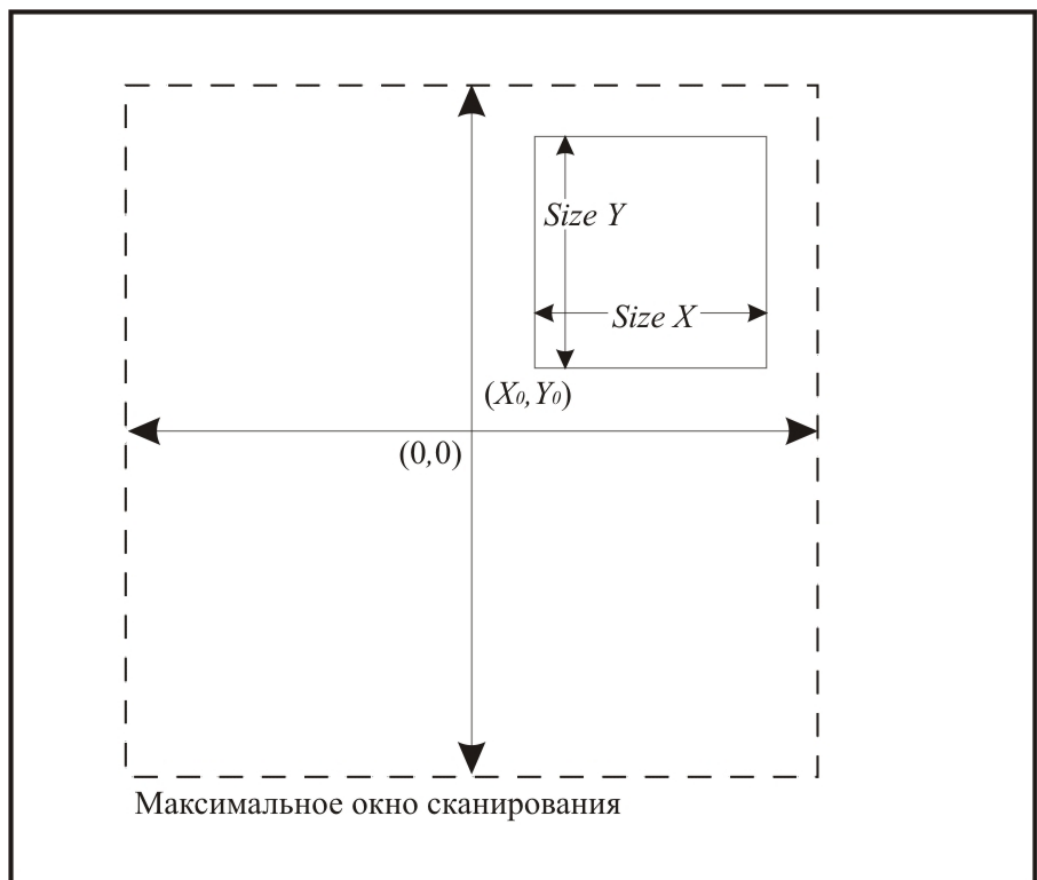

Figure 2.7. Scan window dimensions.
- X_o , Y_o , Size X, Size Y - coordinates of left bottom corner of a scan window and its size in X and Y directions (see fig. 2.7). All these values are sent to the server only at the beginning of scanning process and do not change during scanning. To enter new values, the user should stop current scan, enter new values and then start scanning again. Scan window dimensions have a higher priority than bottom left corner coordinates and if the scan window dimensions become rather large, the bottom left corner coordinates decrease automatically.